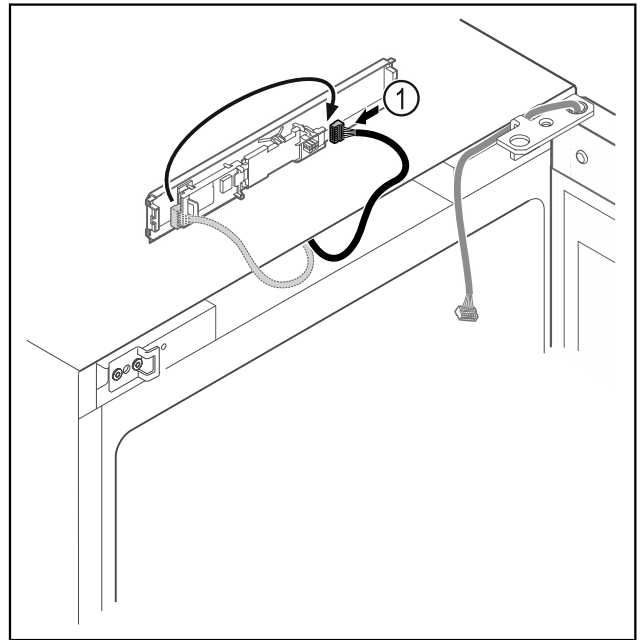

Fig. 11
- ▶ Connect the plug Fig. 11 (1) to the circuit board.